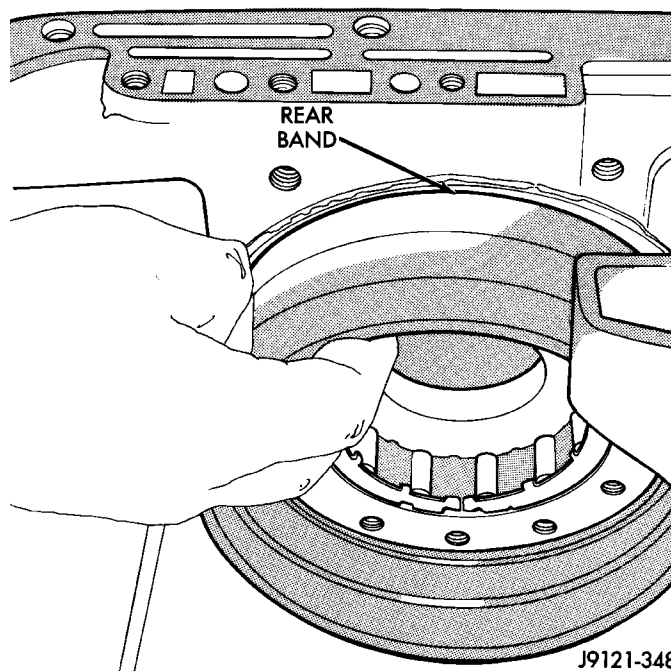

Fig. 110 Rear Band Installation
(4) Lubricate clutch cam rollers with transmission fluid.
(5) Install rear band in case (Fig. 110). Be sure twin lugs on band are seated against reaction pin.
(6) Install low-reverse drum and check overrunning clutch operation as follows: